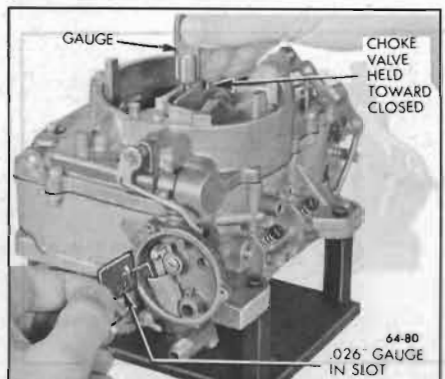

Figure 64-61—Choke Piston Adjustment
1. Adjust Choke Piston Linkage. Inside choke piston bore on left side, about 1/2 inch down, is a small slot. Insert 1/8 inch bent end of .026" wire gauge into upper end of slot; then close choke valve by pressing on piston lever in choke housing until piston stops against gauge. Check opening between upper edge of choke valve and inner wall of air horn. See Figure 64-61. If adjustment is required, place Tool J-5197 on lower section of choke rod and bend as necessary.